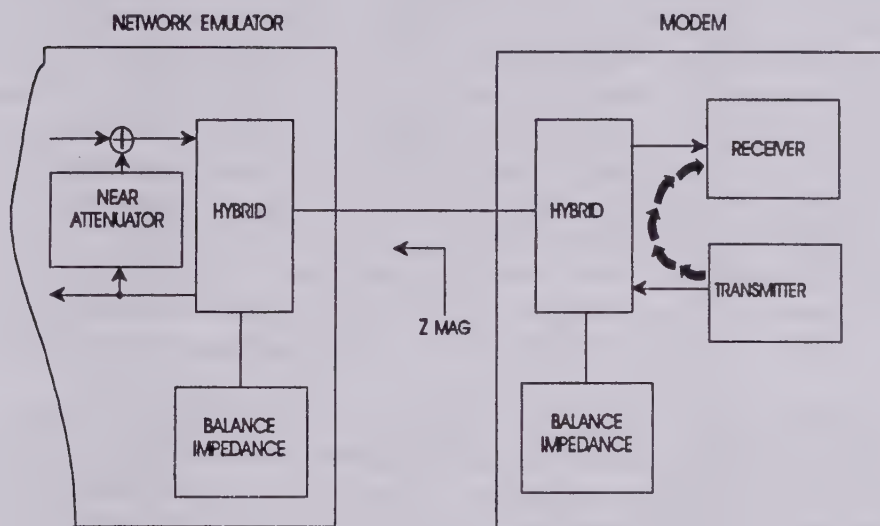

Figure 3.3.7.2-1. Near Talker Echo without Loop
The TAS 100 Series provides near end talker echo simulation for station A and station B. Station A (B) near talker echo is illustrated in Figure 3.3.7.2-1 and is the reflection of the modem A (B) transmit signal that occurs at modem A (B). This reflection is caused by the impedance mismatch between the modem's hybrid balance impedance and the input impedance (Zmag) of the TAS 100 Series station A (B) 2-wire interface.